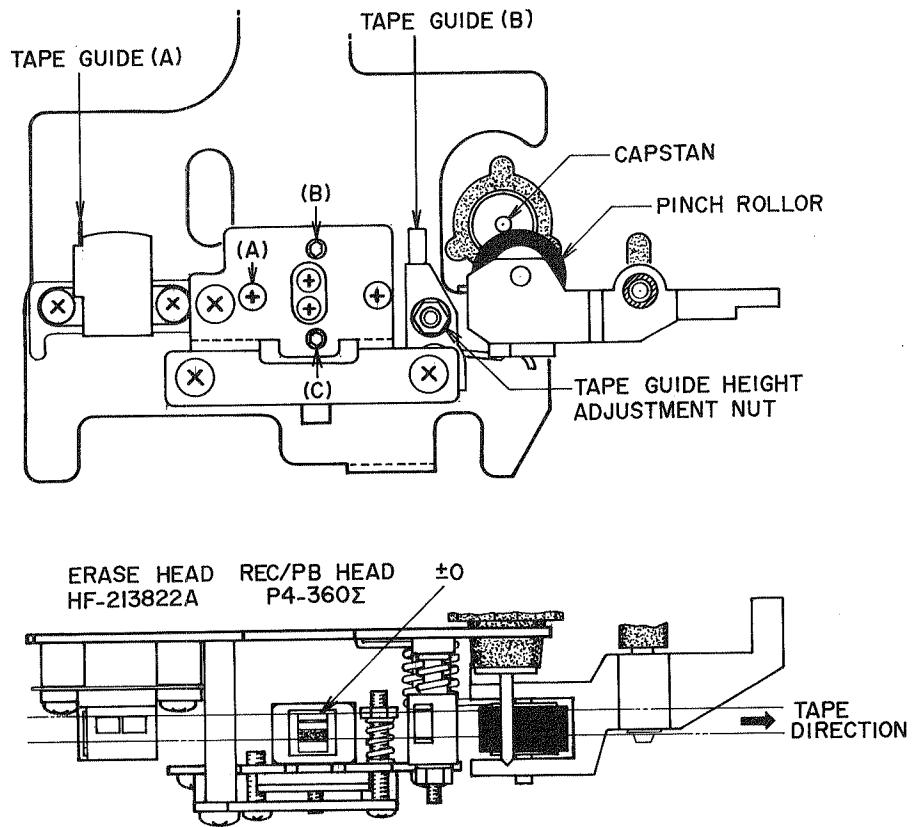

Fig. 8 Head Adjustments
1. TAPE GUIDE HEIGHT ADJUSTMENT (Refer to Figs. 8,9)
- 2) At playback mode, using the Tape guide (A) shown in Fig. 8 as standard for height, adjust tape guide (B) height with tape guide height adjustment nut so that the tape runs smoothly and does not catch on the tape guides.
2. RECORDING/PLAYBACK HEAD HEIGHT ADJUSTMENT (Refer to Figs. 8,9)
- 2) As shown in Fig. 8, adjust head height with screws (A),(B) and (C) until the upper edge of the tape is the same height as the upper edge of the left channel REC/PB head core.
- 3) After completing adjustment step 2, playback the Head Height Adjustment tape (4 track, 1,000 Hz) and adjust Head Height Adjustment screws (A),(B),(C) to put the output power from both channels to maximum.
3. RECORDING/PLAYBACK HEAD AZIMUTH ALIGNMENT ADJUSTMENT (Refer to Fig. 8)
- 1) Playback a 10 kHz pre-recorded cassette azimuth alignment test tape and adjust screw (A) shown in Fig. 8 to obtain maximum output on both channels.